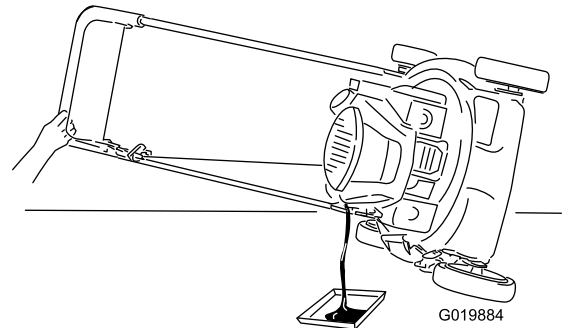

Figure 17
2. Tip the machine onto its side, with the air filter up, then remove the dipstick to drain the used oil out through the oil-fill tube (Figure 17).